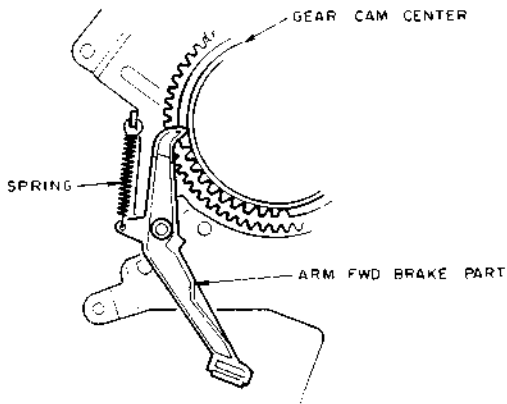

Fig. 4-11
- 7) Attach the ARM FWD BRAKE and SPRING as shown in Fig. 4-11.